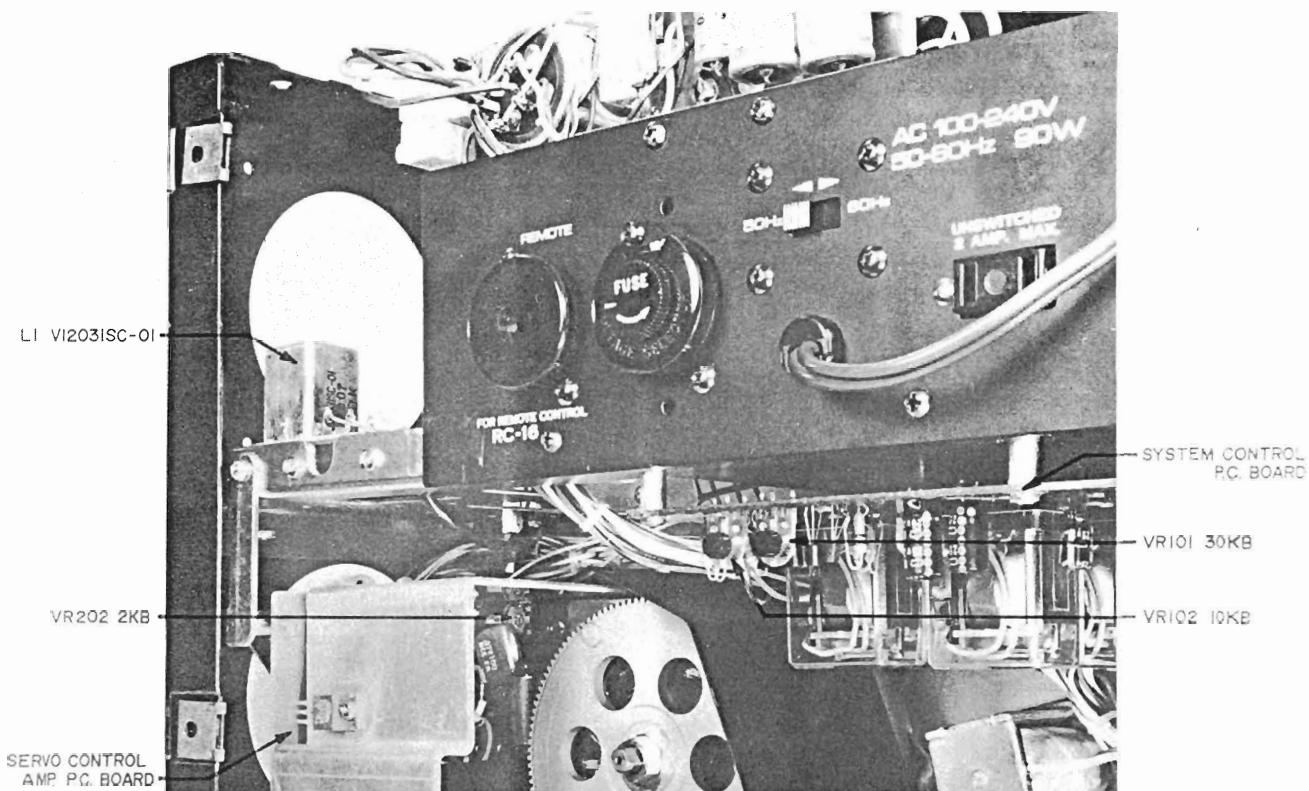

Fig. 9
- 3) Adjust the core of coil L1 (VI023SC-01) shown in Fig. 9 so that the Frequency Counter indication is 500 Hz $\pm 1\%$.
- 4) After the 3-3/4 ips (9.5 cm/sec.) tape speed adjustment has been completed, depress the 7-1/2 ips (19 cm/sec.) Tape Speed Selector and adjust Servo-Control P.C. Board semi-fixed resistor VR202 (2 kB) shown in Fig. 9 so that the frequency counter indication is 1,000 Hz $+1/-0.5\%$.
Adjust System Control P.C. Board semi-fixed resistor VR101 (30 kB) shown in Fig. 9 so that when the machine is switched from FWD to REV mode or from REV to FWD mode, the pinch wheel separates from the capstan in about 3 seconds.
- 2) Adjust System Control P.C. Board semi-fixed resistor VR102 (10 kB) shown in Fig. 9 so that when the machine is switched from FWD or RWD to FWD or REV mode, the time constant is about 1.5 seconds.